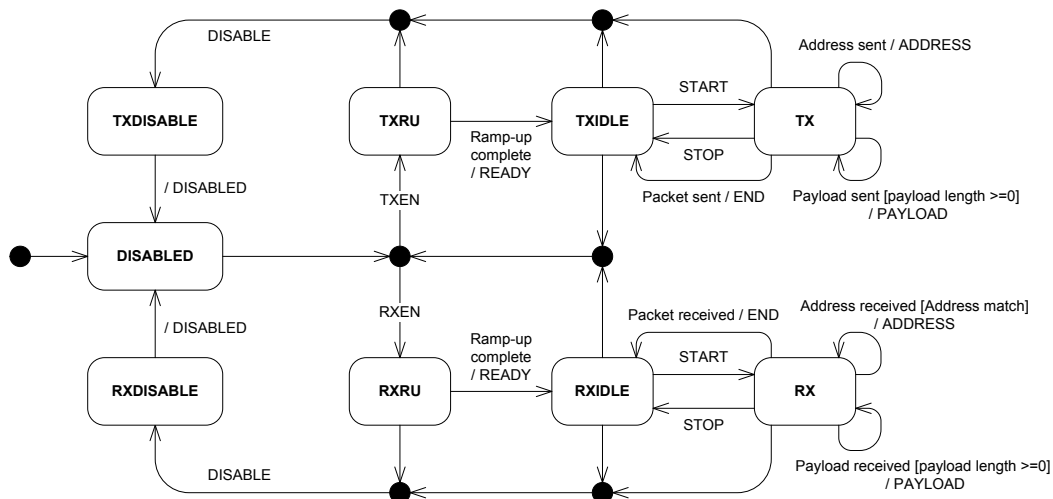
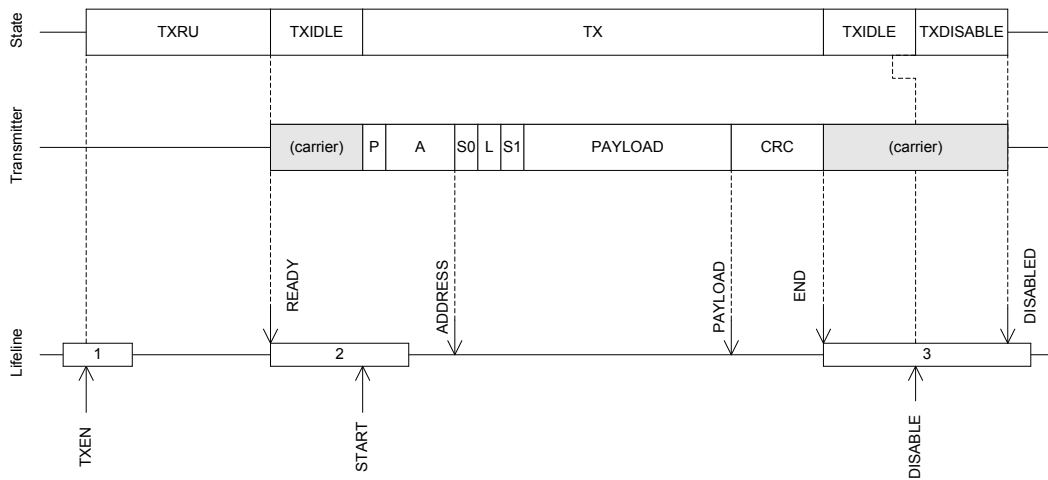
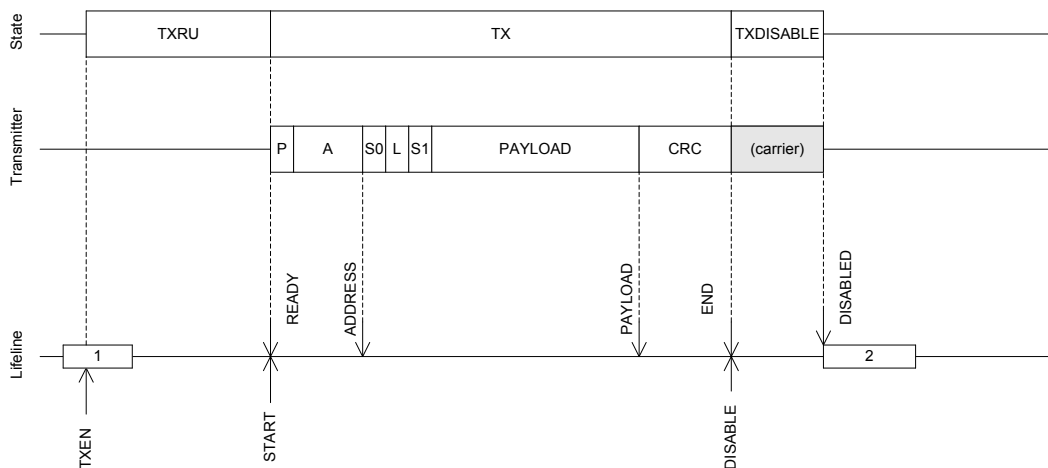
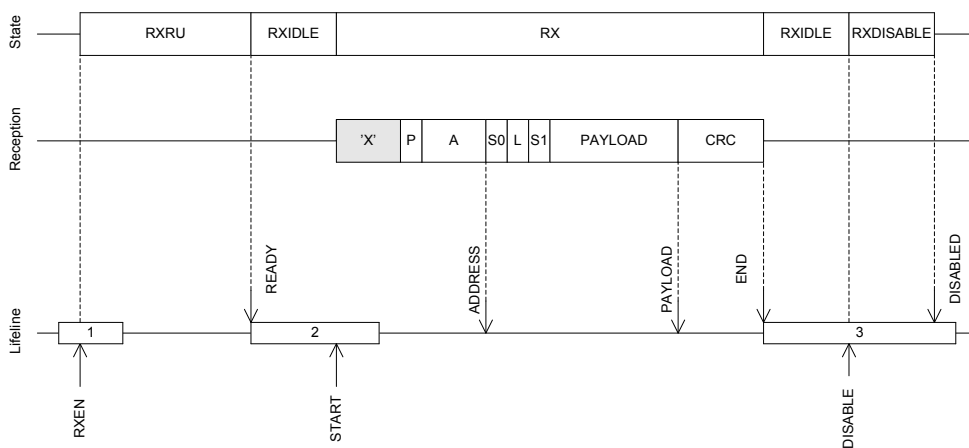

Figure 34: Radio states
Figure 35: Transmit sequence
Figure 36: Transmit sequence using shortcuts to avoid delays
Figure 38: Receive sequence
The RADIO can enter the states described the table below. An overview state diagram for the RADIO is illustrated in *Figure 34: Radio states* on page 209. This figure shows how the tasks and events relate to the RADIO's operation. The RADIO does not prevent a task from being triggered from the wrong state. If a task is triggered from the wrong state, for example if the RXEN task is triggered from the RXDISABLE state, this may lead to incorrect behaviour. As illustrated in *Figure 34: Radio states* on page 209, the PAYLOAD event is always generated even if the payload is zero.
See TXRU in *Figure 34: Radio states* on page 209 and *Figure 35: Transmit sequence* on page 210.
A TXRU ramp-up sequence is initiated when the TXEN task is triggered. After the radio has successfully ramped up it will generate the READY event indicating that a packet transmission can be initiate. A packet transmission is initiated by triggering the START task. As illustrated in *Figure 34: Radio states* on page 209 the START task can first be triggered after the RADIO has entered into the TXIDLE state.
Figure 35: Transmit sequence on page 210 illustrates a single packet transmission where the CPU manually triggers the different tasks needed to control the flow of the RADIO, i.e. no shortcuts are used. If shortcuts are not used, a certain amount of delay caused by CPU execution is expected between READY and START, and between END and DISABLE. As illustrated in *Figure 35: Transmit sequence* on page 210
A slightly modified version of the transmit sequence from Figure 35: Transmit sequence on page 210 is illustrated in Figure 36: Transmit sequence using shortcuts to avoid delays on page 210 where the RADIO is configured to use shortcuts between READY and START, and between END and DISABLE, which means that no delay is introduced.
See RXRU in Figure 34: Radio states on page 209 and Figure 38: Receive sequence on page 211.
An RXRU ramp-up sequence is initiated when the RXEN task is triggered. After the radio has successfully ramped up it will generate the READY event indicating that a packet reception can be initiated. A packet reception is initiated by triggering the START task. As illustrated in Figure 34: Radio states on page 209 the START task can, first be triggered after the RADIO has entered into the RXIDLE state.
Figure 38: Receive sequence on page 211 illustrates a single packet reception where the CPU manually triggers the different tasks needed to control the flow of the RADIO, i.e. no shortcuts are used. If shortcuts are not used, a certain amount of delay, caused by CPU execution, is expected between READY and START, and between END and DISABLE. As illustrated Figure 38: Receive sequence on page 211 the RADIO will be listening and possibly receiving undefined data, illustrated with an 'X', from START and until a packet with valid preamble (P) is received.
A slightly modified version of the receive sequence from Figure 38: Receive sequence on page 211 is illustrated in Figure 39: Receive sequence using shortcuts to avoid delays on page 212 where the the RADIO is configured to use shortcuts between READY and START, and between END and DISABLE, which means that no delay is introduced.